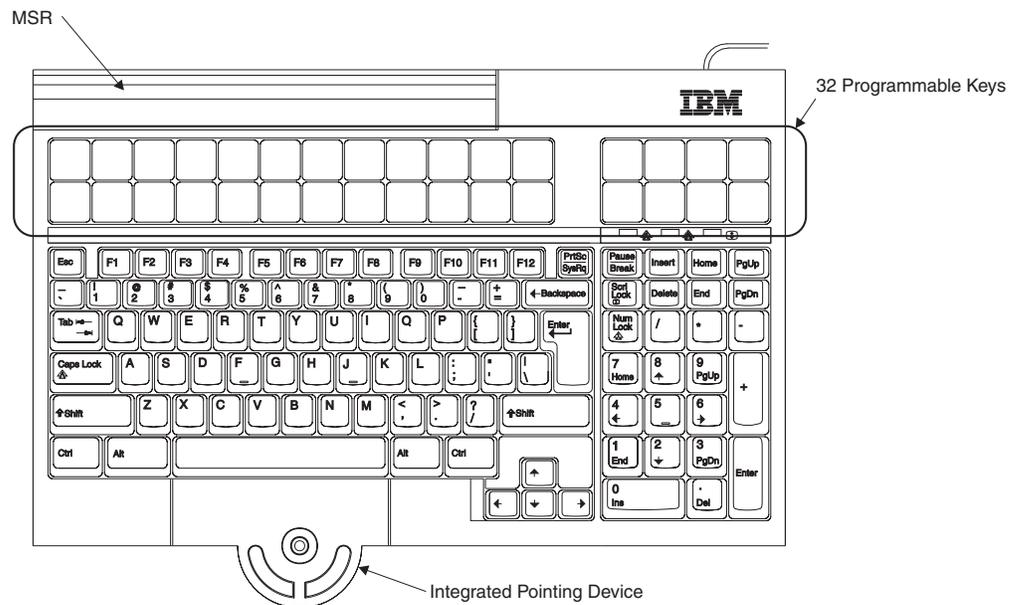

Figure 44. CANPOS Keyboard
Figure 44 shows the CANPOS keyboard and its components:
2. Disconnect the card reader cable (see Figure 44 on page 45).
3. Remove the screw holding the card reader (see Figure 44 on page 45).